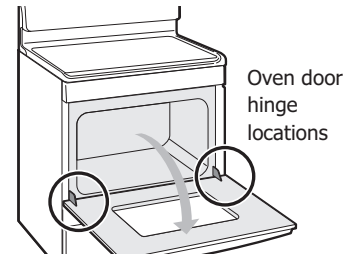

Figure 42: Door hinge location
3. Fully open the oven door, horizontal with floor (Figure 42).